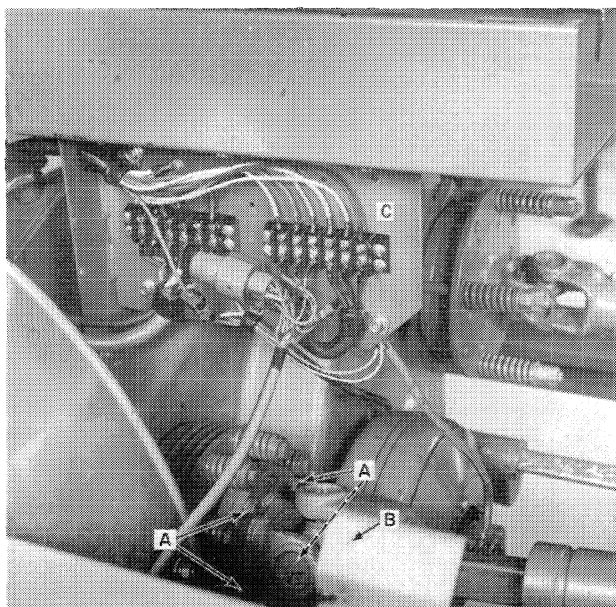

FIGURE 2-26
Slip clutch drive (Figure 2-26). Remove the drive shaft, B, by loosening the four mounting bolts, A. If the electric clutch assembly has not been removed, remove one clutch spring bolt and spring. Loosen the clutch assembly retaining bolt. Use a puller to remove the assembly from the tapered spline.
8. Unfasten the terminal mounting bracket, C, Figure 2-26, from the gearbox and harvester. Position the bracket out of the way.